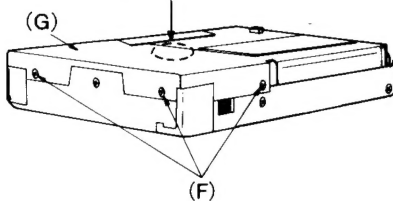
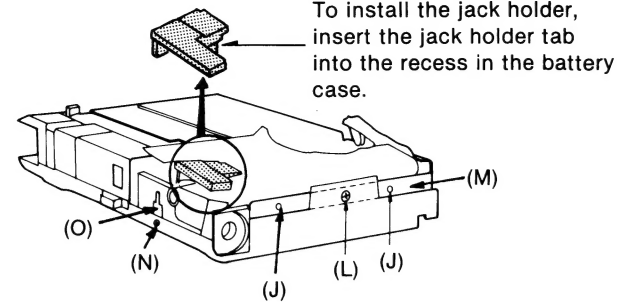

Fig. 4
Fig. 9
6. Take out the screws (F)×4 (1.4×2)mm and remove the front cabinet ass'y (G). (When reassembling, install screw ① first.) (Fig. 4, 5)
7. Remove the jack holder (H). (Fig. 4, 6)... **Note:** For installation, refer to Fig. 9.
2. Unhook the rear cabinet ass'y from the battery case locks (J)×2 by pulling it forward. (Fig. 9)
4. Remove the screw (L)×1 (1.4×2)mm and remove the fastening plate (M)×1. (Fig. 9)
5. Remove the screw (N)×1 (1.4×1.4)mm and remove the fastening plate (O)×1. (Fig. 9)